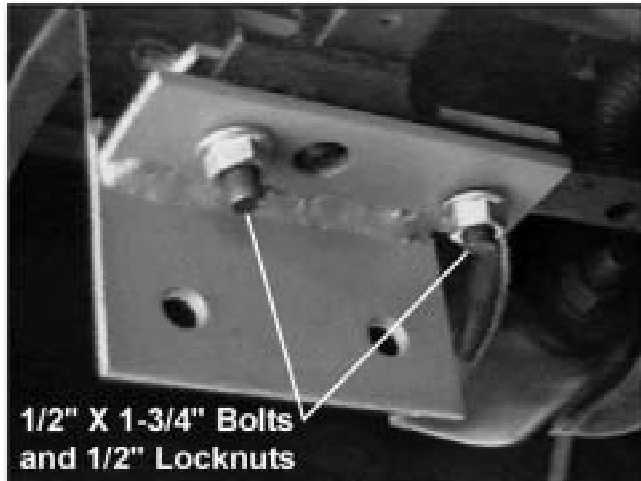

Figure 6
4. Install two 1/2" x 1-3/4" grade 8 carriage bolts through backing plates with narrow offset toward radius of frame rail from top down in each side. Retain with 1/2" locknuts. See Figure 6.